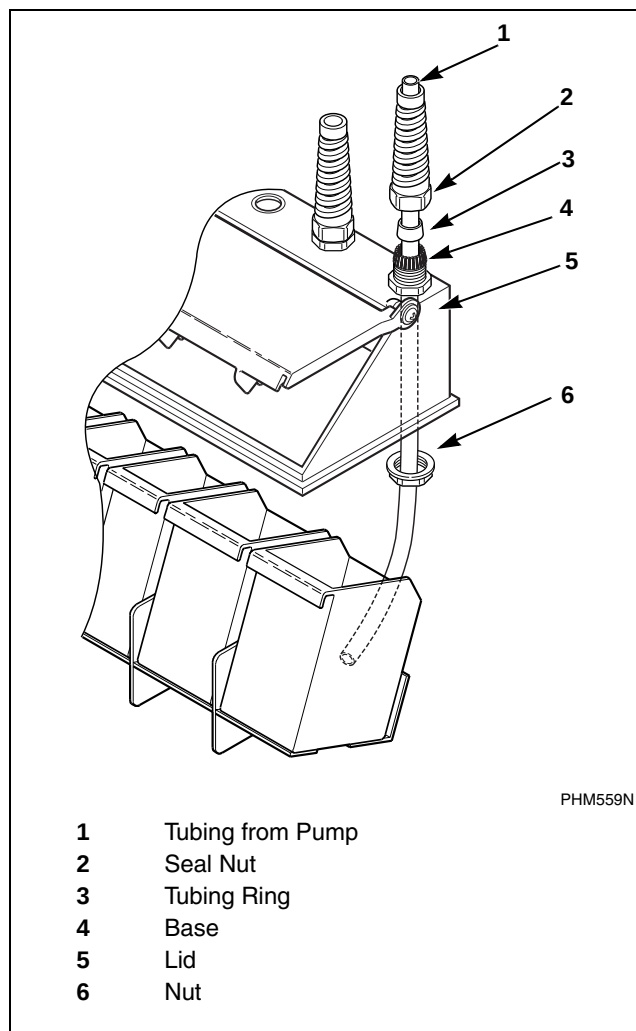

Figure 15
- 1. Remove knockout from supply dispenser. Refer to *Figure 15*. Plugs are assembled inside the tubing ring.